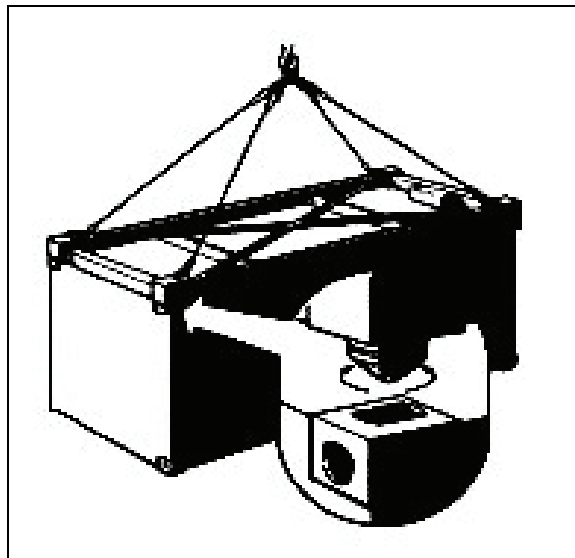

Figure 3-124. Twist Locks
1. Ensure personnel check twist locks to make sure they engage and disengage (see Figure 3-124).